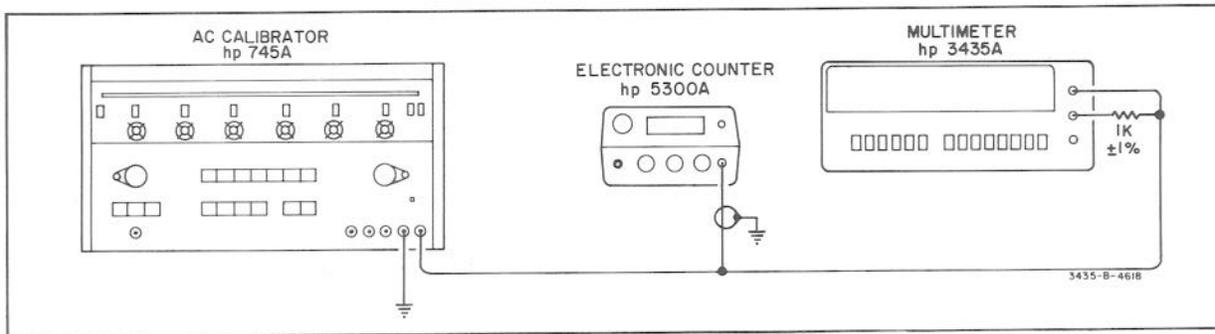

Figure 5-7. Effective Common-Mode Rejection Test.
- Connect an AC Calibrator as shown in Figure 5-7 and set the output amplitude to 100 V at 60 Hz \pm 1 Hz. (Period = 16650 to 16683 μ s.)